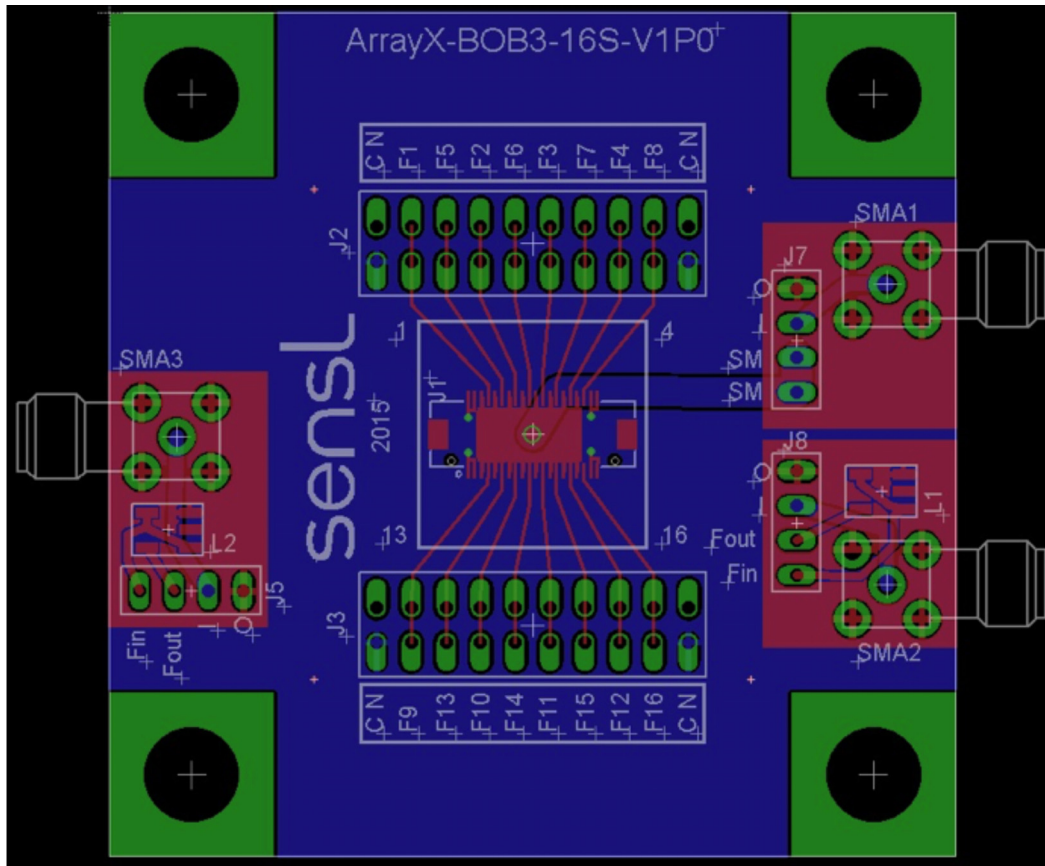

Figure 8. Layout of the ARRAYX-BOB3-16S. The board dimensions are 62 mm x 62 mm
The ARRAYX-BOB3-16S is an evaluation board allowing easy access to the sum of all of standard pixel signals of a ON Semiconductor ARRAYC-30035-16P, 3 mm 4 x 4 SiPM array, in addition to all of the individual fast output signals. The Summed Breakout Board has a centrally located Hirose 40-way connector DF17(2.0)-40DS-0.5V(57). This connector mates with the Hirose DF17(2.0)-40DP-0.5V(57) board-to-board connector on the ARRAYC-30035-16P. See Figure 7 in the previous section for information on orientating the array on the BOB. A schematic of the board is shown in Figure 8 below.